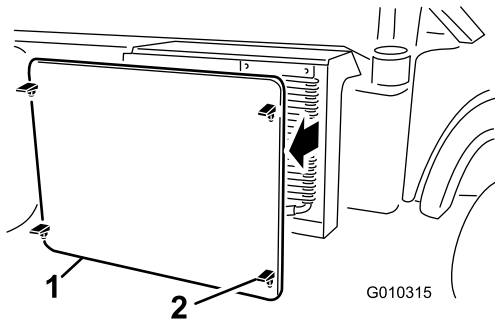

Figure 59
2. Unlatch and remove the radiator screen from the front of the radiator (Figure 59).